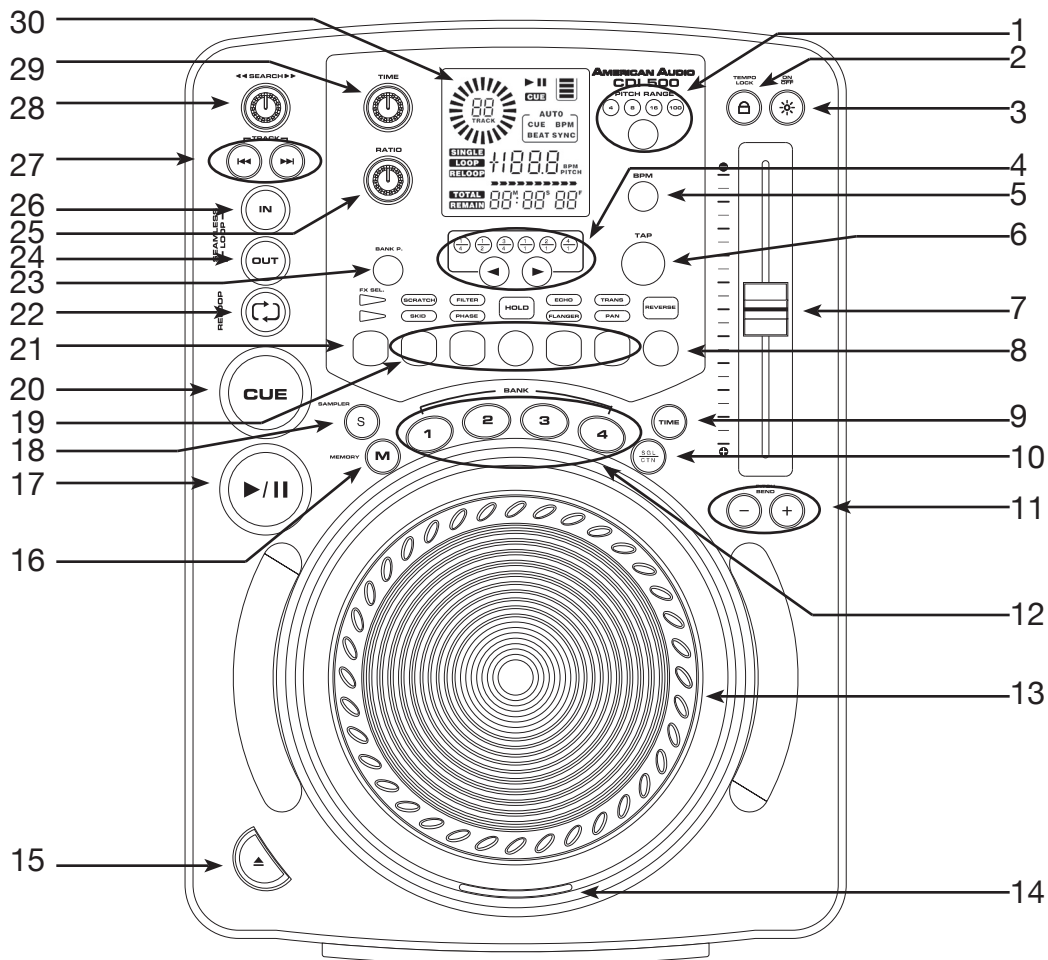

Figure 3
A. TOP UNIT CONTROLS (FIGURE 3)
3. PITCH ON/OFF BUTTON - This button is used to turn the *PITCH SLIDER* (7) function on and off. The pitch percentage can be changed between 4%, 8%, 16% and 100%. 4% will allow the least